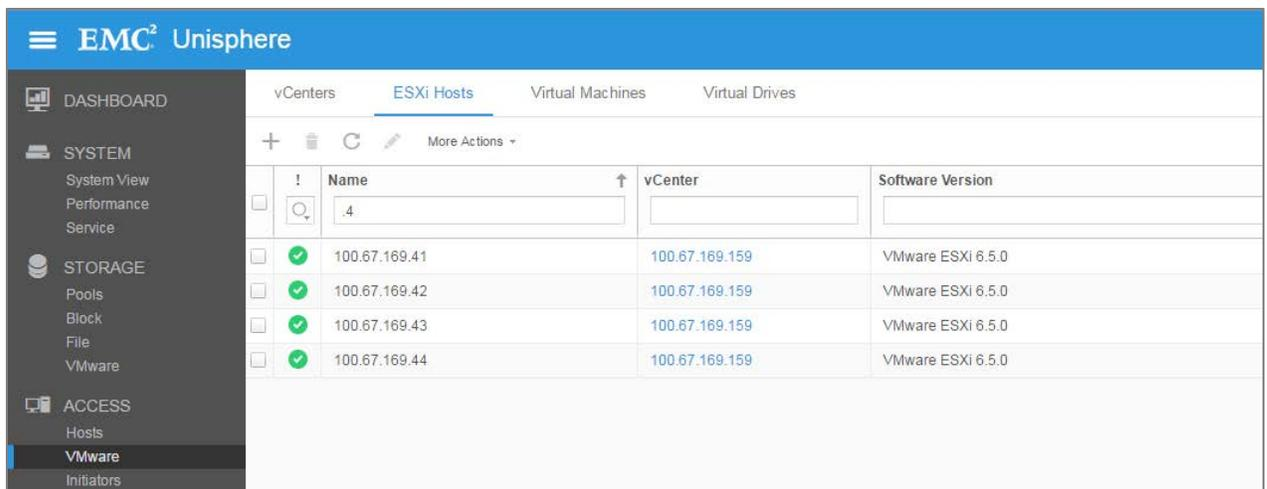

Figure 28 ESXi Hosts
9. The list of added of ESXi hosts should be displayed under the ESXi Hosts tab, as shown in Figure 28.